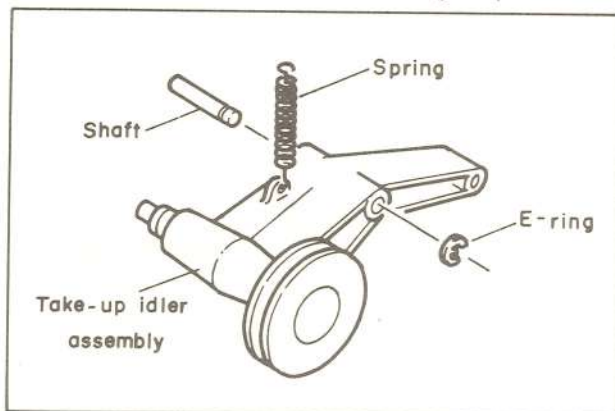

Fig. 4-16 Take-up idler assembly
1. Remove the E-ring and spring as shown in Fig. 4-16.